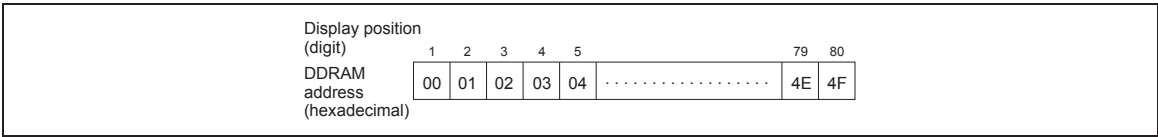

Figure 2 1-Line Display
- 1-line display ( $N = 0$ ) (Figure 2)